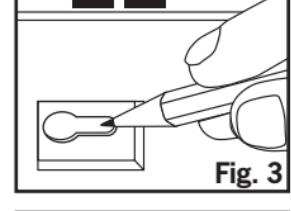
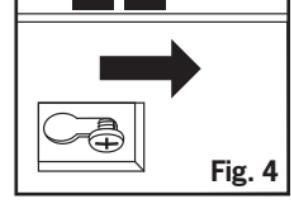

Fig. 3
Fig. 4
- 3 Place fixture up to mounting surface and mark position of the narrow end of the keyslot holes on the mounting surface with a pencil (**Fig. 3**). The screw hole locations must be exact for the fixture to mount properly.
- 4 Drill a 1/16 in. pilot hole into the marked screw locations. You can also use an awl or nail to dimple the screw holes. Start the screws (**B**), but do not tighten fully. Slide the fixture over until the narrow legs of the keyhole slots are under the heads of the screws (**Fig. 4**). Finish tightening the screws until they are firmly seated and the fixture is tightly secured to the mounting surface.
- 3 Install the bulb into the sockets by aligning the pins of the bulb with the slot in the sockets (**Fig. 3**). Using your thumbs and forefinger, press the metal ends of the bulb socket and roll the bulb forward until it rotates 90 degrees inside the socket, making contact between the bulb pins and the socket contacts (**Fig. 4**).